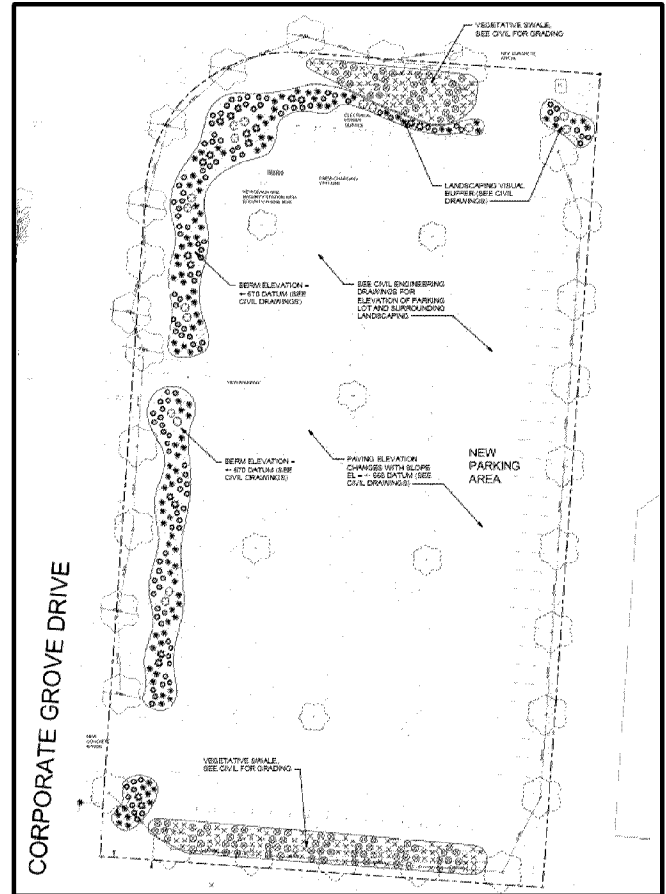

Figure 2: Landscape Plan
- The petitioner has provided a landscape plan showing new landscaping proposed throughout the site, (see Figure 2).